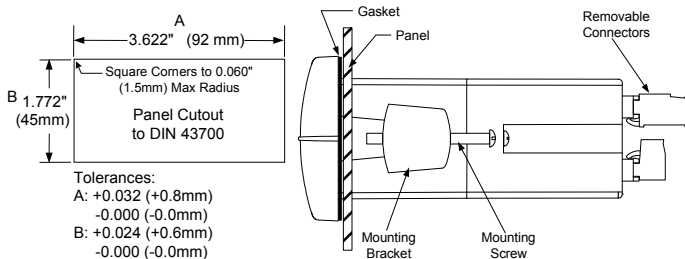

Figure 1: 1/8 DIN Panel Cutout and Mounting
- Prepare a standard 1/8 DIN panel cutout – 3.622" x 1.772" (92 mm x 45 mm). Refer to Figure 1 for more details.